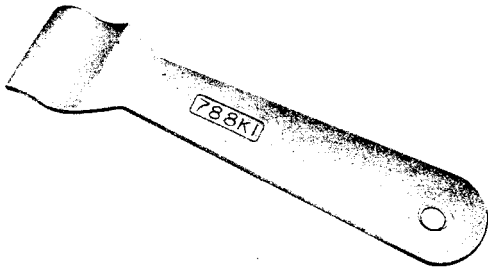

Fig. 13—788K Lead Retention Tool
3.06 The **788K-type (lead retention) tool** (Fig. 13) is intended for use as a hold-down aid for incoming cable pairs during maintenance removal of 88-type connecting blocks.